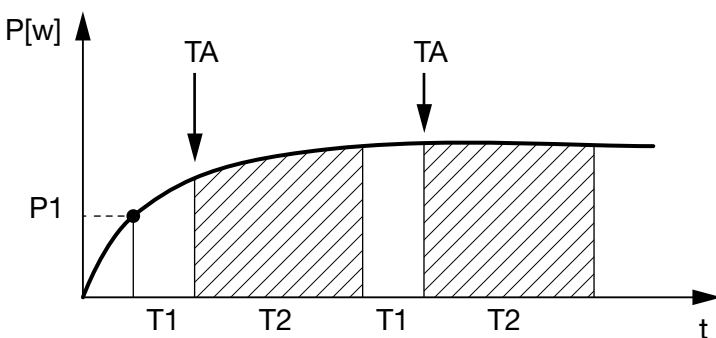
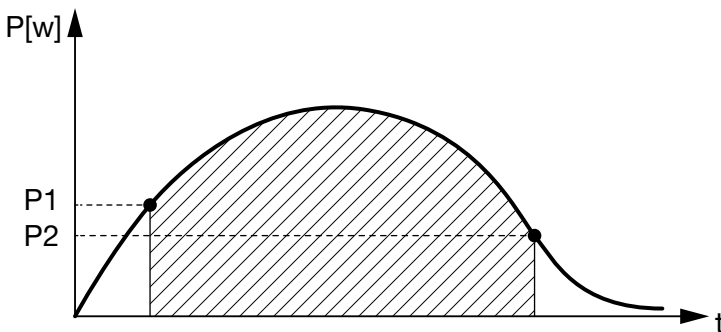

Fig. 67: Self-consumption graph (Function 1)
Fig. 68: Self-consumption graph (Function 2)
7. Select function 1  **Fig. 67** or 2  **Fig. 68**.